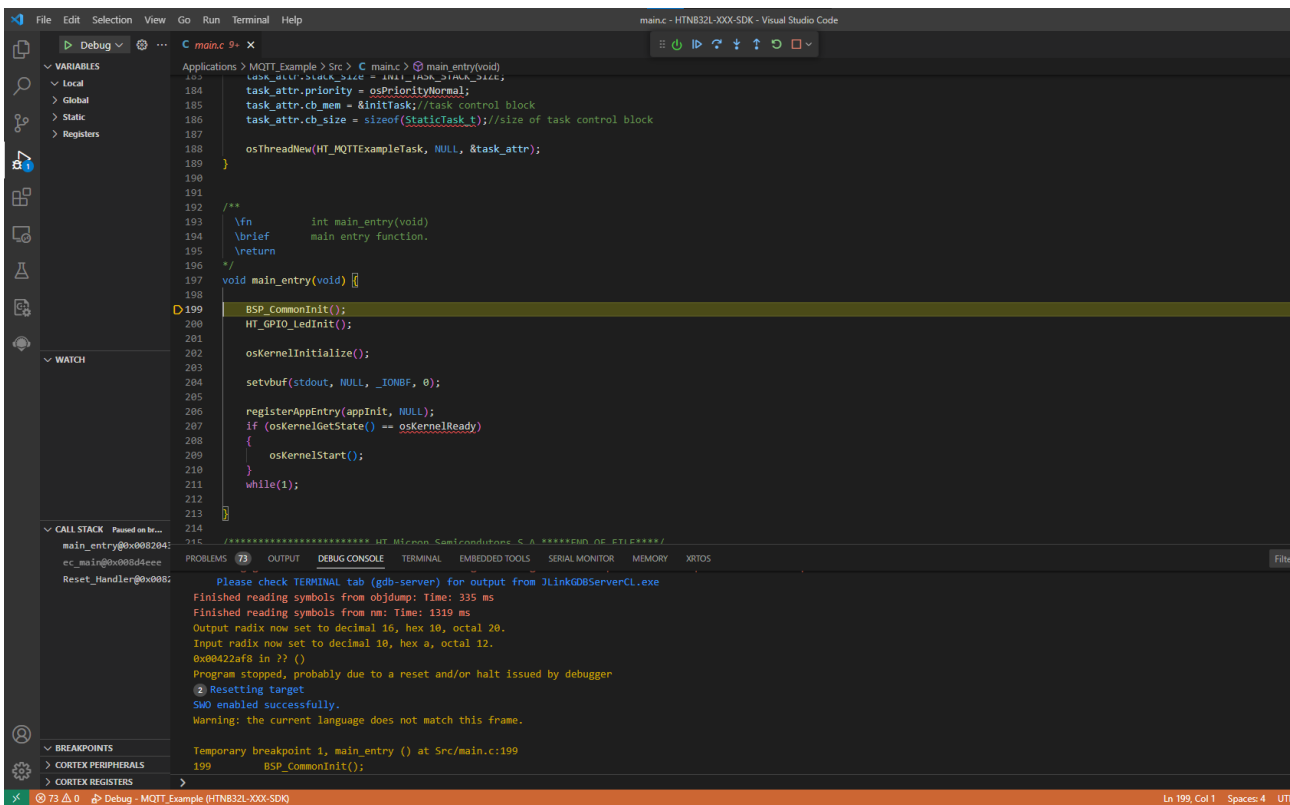

Figure 20: VSCODE debugger running.
4. Figure 20 shows the VSCODE debugger running.